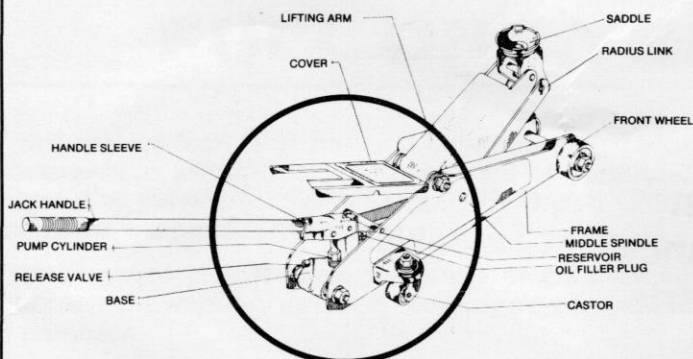

FIG. 1
- Open the release valve by turning the jack handle (see Fig. 1) counter-clockwise.
- With notched end of the jack handle (see Fig. 1), close release valve by turning the handle clockwise.
- Refer to the vehicle manufacturer owners manual to locate approved lifting points on the vehicle. Position jack so that the saddle (see Fig. 1) is centered under the load at an appropriate lift point.